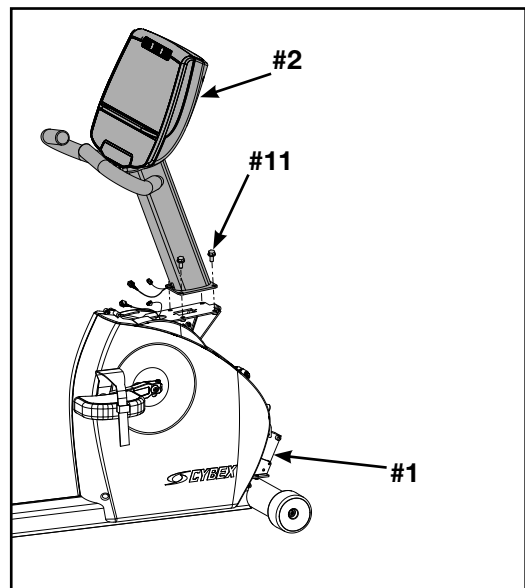

Figure 3
- A. Locate the console assembly (#2) and four mounting screws 5/16-18 x .75" (#11). See Figure 3.
- D. Hand thread the other two screws 5/16-18 x .75" (#11). See Figure 3.